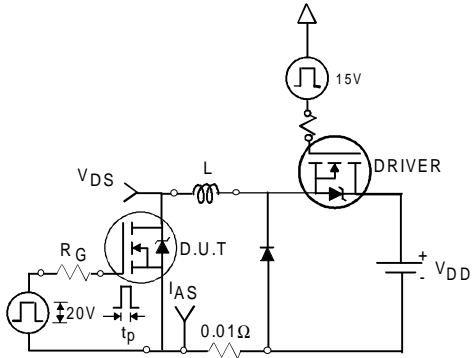

Fig 12a. Unclamped Inductive Test Circuit
| I_{AR} | Avalanche Current① | See Fig.12a, 12b, 15, 16 | A |
- ④ Pulse width ≤ 400μs; duty cycle ≤ 2%.
- ⑤ C_{oss eff.} is a fixed capacitance that gives the same charging time as C_{oss} while V_{DS} is rising from 0 to 80% V_{DSS}.
- ⑥ Calculated continuous current based on maximum allowable junction temperature. Package limitation current is 75A.
- ⑦ Limited by T_{Jmax}, see Fig.12a, 12b, 15, 16 for typical repetitive avalanche performance.
3. Equation below based on circuit and waveforms shown in Figures 12a, 12b.